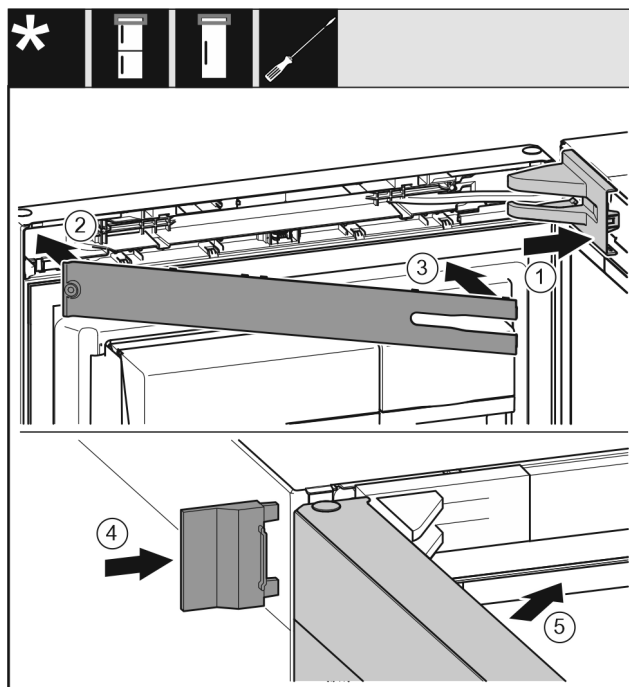

Fig. 51
- ▶ Position the bearing bracket cover and latch it in place. If necessary push it apart carefully. *Fig. 51 (1)*
- ▶ Position the panel. *Fig. 51 (2)*
- ▶ Swing in the panel and latch it into place. *Fig. 51 (3)*
- ▶ Slide on the outer cover. *Fig. 51 (4)*
- ▶ Close the upper door. *Fig. 51 (5)*